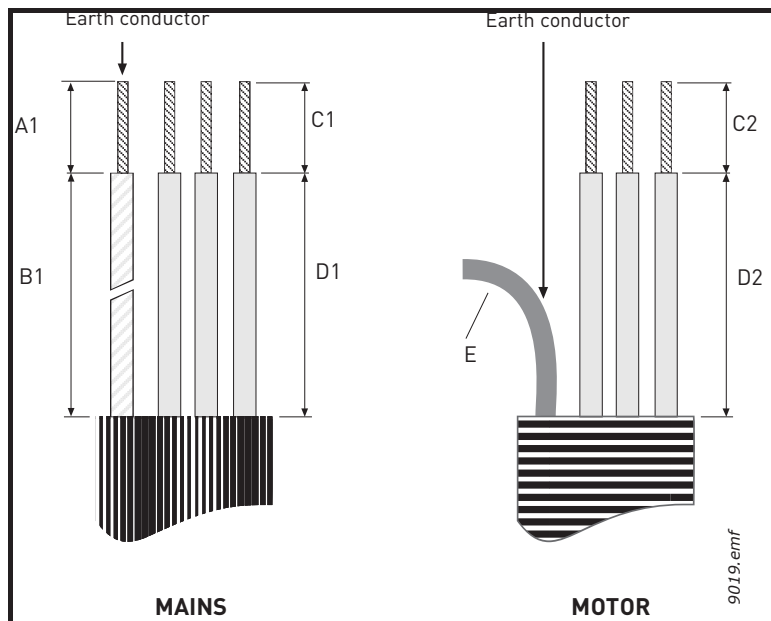
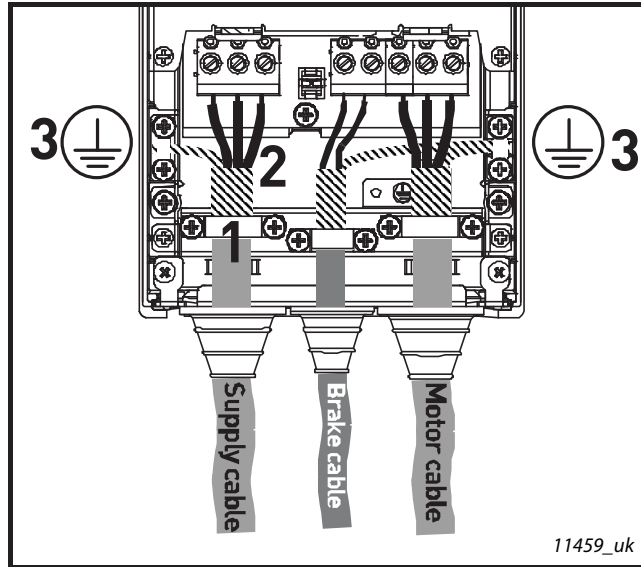

Figure 17. Stripping of cables
Figure 24.
7	<p>Connect the stripped cables (see Figure 17 and Table 10) as shown in Figure 24.</p> <ul style="list-style-type: none"> <li>Expose the shield of all three cables in order to make a 360-degree connection with the cable clamp (1).</li> <li>Connect the (phase) conductors of the supply and motor cables into their respective terminals (2).</li> <li>Form the rest of the cable shield of all three cables into “pigtails” and make a grounding connection with a clamp as shown in Figure 24 (3). Make the pigtails just long enough to reach and be fixed to the terminal - not longer.</li> </ul>